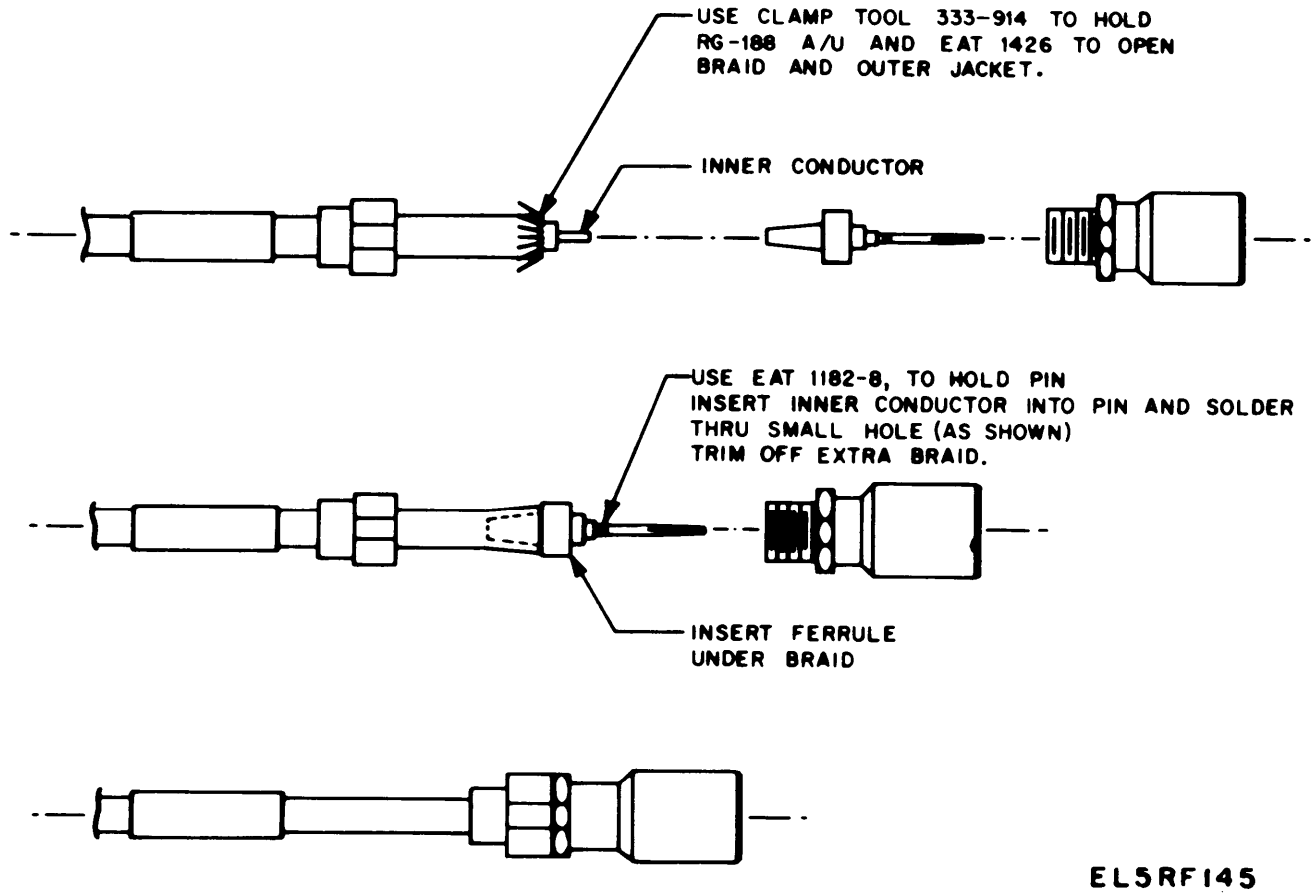

Figure 2-1. Details of Cable Connector Assembly.
b. *Microminiature-Type Connectors (fig. 2-1).* The following is a general procedure applying to most microminiature connectors:
(1) Slide the connector clamp nut over the covering of the rf cable.